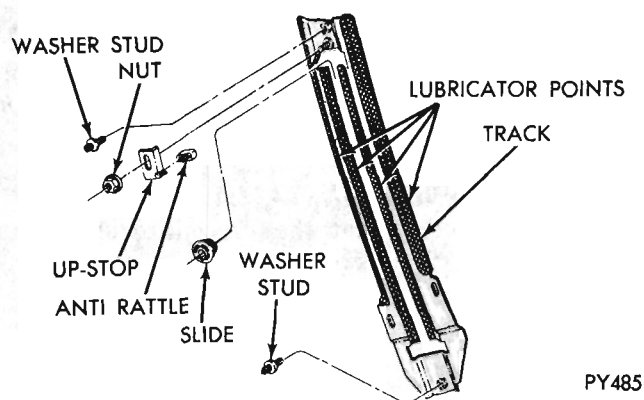

Fig. 14 - Front Track Adjuster
FRONT TRACK ADJUSTER (Fig. 14)
- (2) Assemble anti-rattle to up-stop quarter window glass front.
- (3) Sub-assemble up-stop and anti-rattle assembly item \$2 to track assembly item 1 utilizing upper weld stud to locate up-stop and snug secure in pull up position.
- (4) Secure with nut and washer assembly.
- (5) Assemble washer stud upper and lower slide track.
- (6) Apply lubricant to points shown in (Fig. 14).
- (7) Assemble slide to lubricated center tracks and slide to bottom.